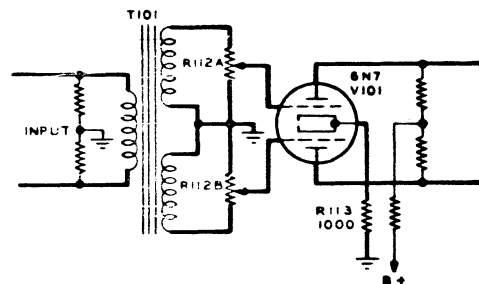

Figure 2-2. Input Amplifier Circuit
b. INPUT AMPLIFIER. - The input line is transformer coupled by T101 to a Type 6N7 tube V101 employed as a voltage amplifier. Bias is obtained by means of the voltage drop across a resistor R113 in the cathode circuit. Refer to Figure 2-2.